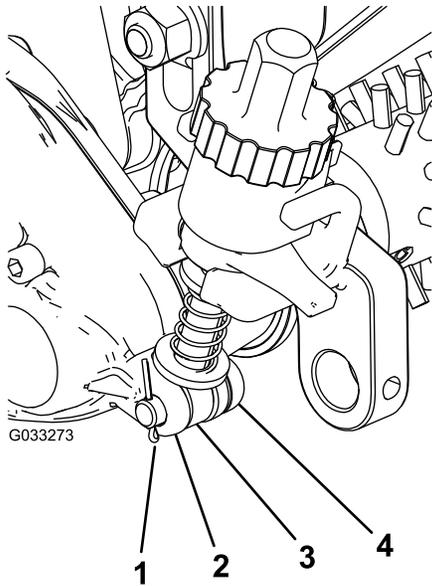

Figure 22
- Slide the adjuster-arm assembly rod near the groomer drive box into the gap on the drive box and secure it with an adjuster pin and cotter pin (Figure 22).